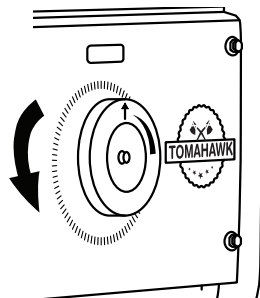

FIGURE 16
10.5 Set the desired amperage on the amperage control knob on the front panel of the welder. **FIGURE 16.**